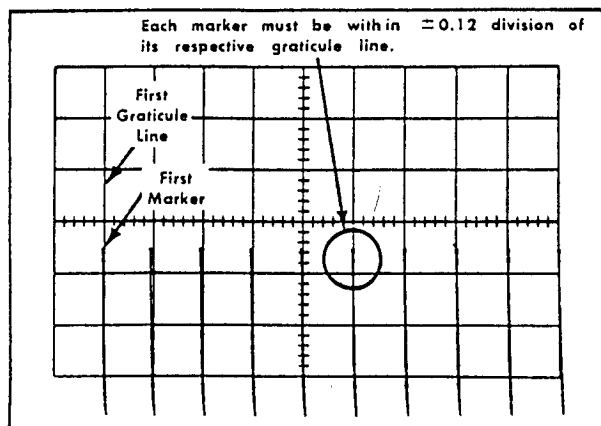

Fig. 5-14. Typical crt display when checking magnified linearity.
- c. Check—Displacement of each marker from its respective graticule line not to exceed  $\pm 0.12$  division ( $\pm 1.5\%$ ); see Fig. 5-14.